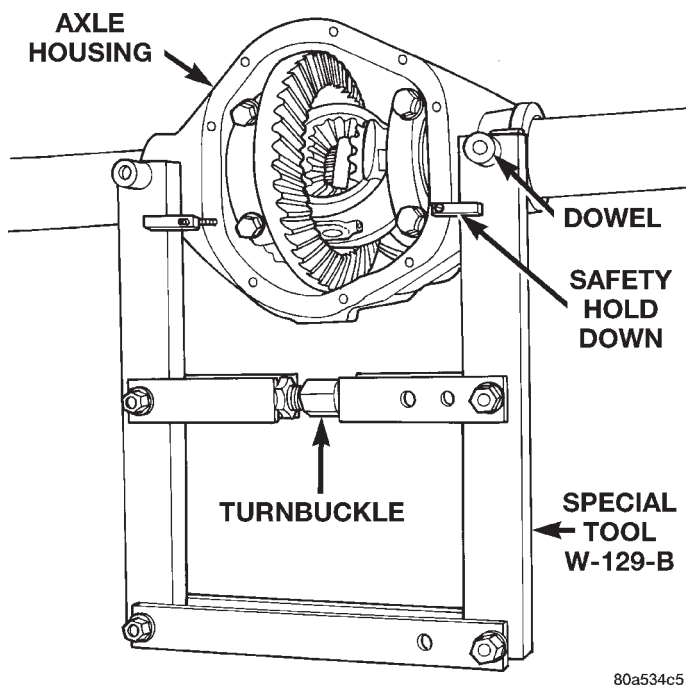

Fig. 29 Install Axle Housing Spreader
(1) Position Spreader W-129-B, utilizing some items from Adapter Kit 6987, with the tool dowel pins seated in the locating holes (Fig. 29). Install the holddown clamps and tighten the tool turnbuckle finger-tight.